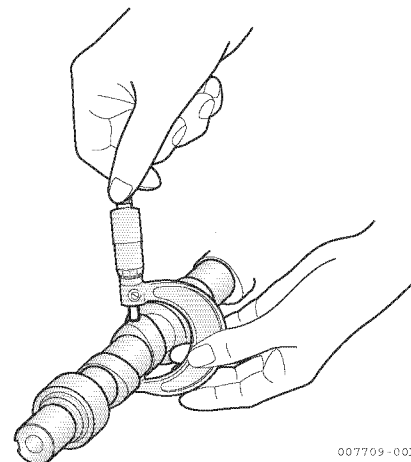

Figure 5-115
- Measure the camshaft height, and replace the cam if it is worn beyond the limit (Figure 5-115).